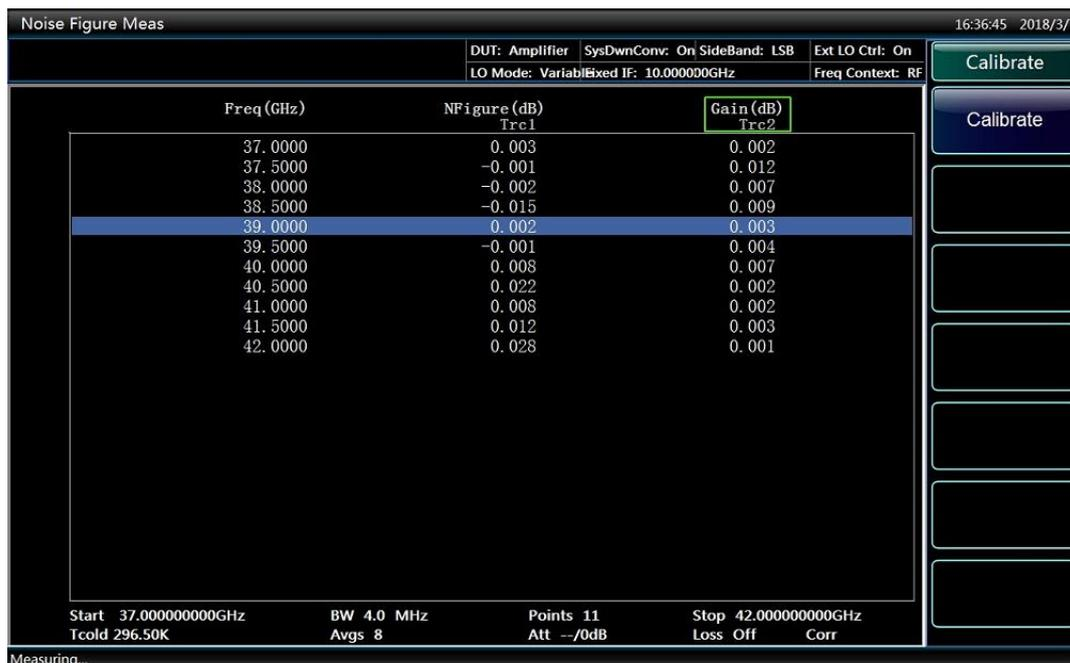

Figure 3.18 Typical Results after Calibration Displayed under the Downconverter Measurement Mode
- Step 2.** Press [Calibrate] menu key twice to calibrate. The first time you press the [Calibrate] key, you will be prompted to press it again. The typical results after calibration are displayed in table format as shown in Figure 3.18.